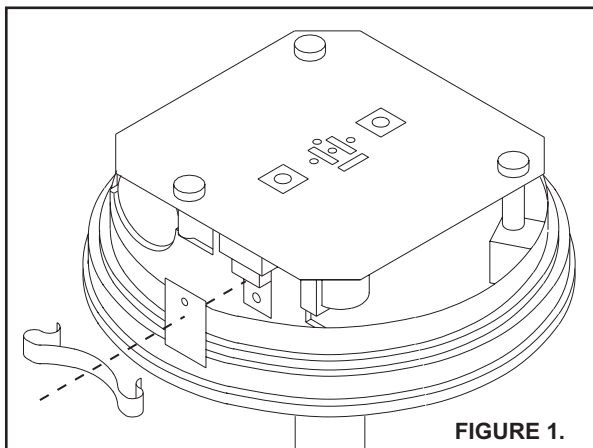

FIGURE 1.
**FIGURE 1.** Lower the power supply assembly onto the cast aluminum base, with the three mounting holes lined up with the holes located on the three mounting studs of the cast aluminum base. During this assembly operation, the transistor on the power supply assembly has to be positioned on the outside of the transistor mounting boss. Secure the strobe light power supply assembly to the mounting studs with enclosed self tapping screws.